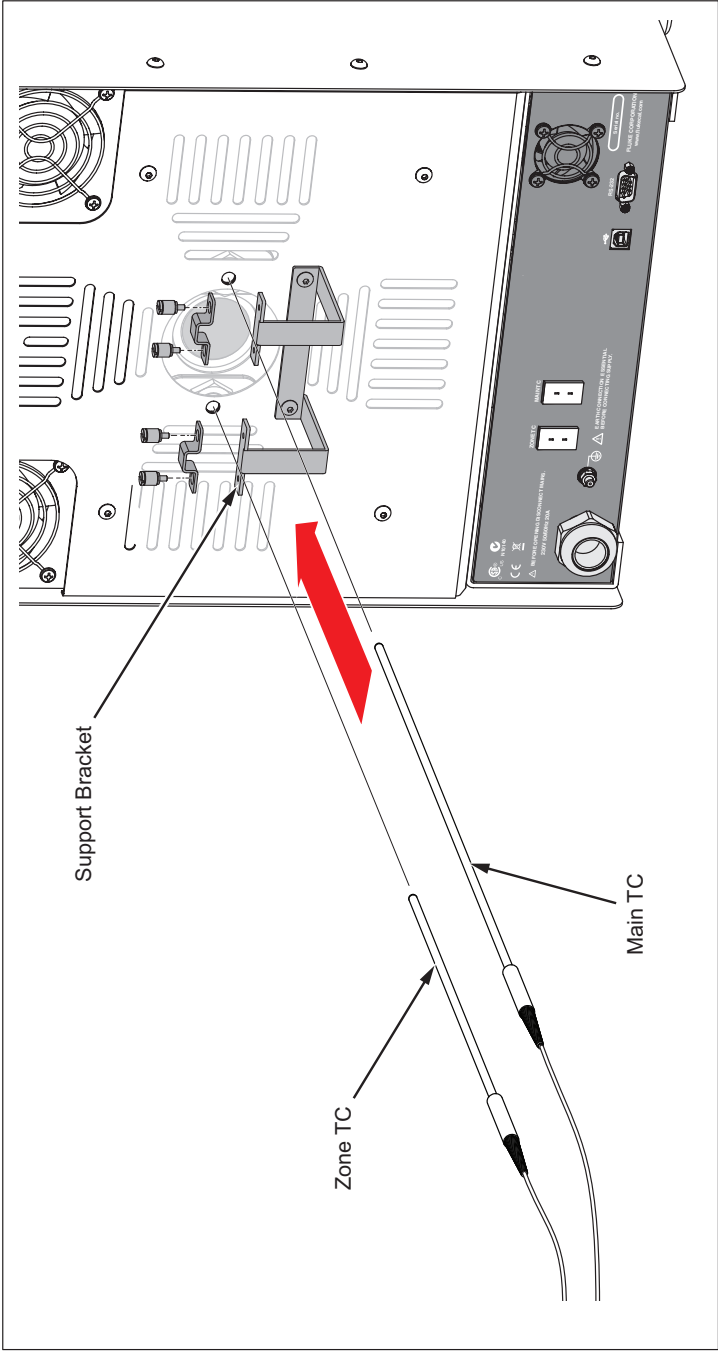

Figure 12. Probe Installation A
2. Align the end surface of the thermocouple handle with the front edge of the bracket. See Figures 12 and 13 .